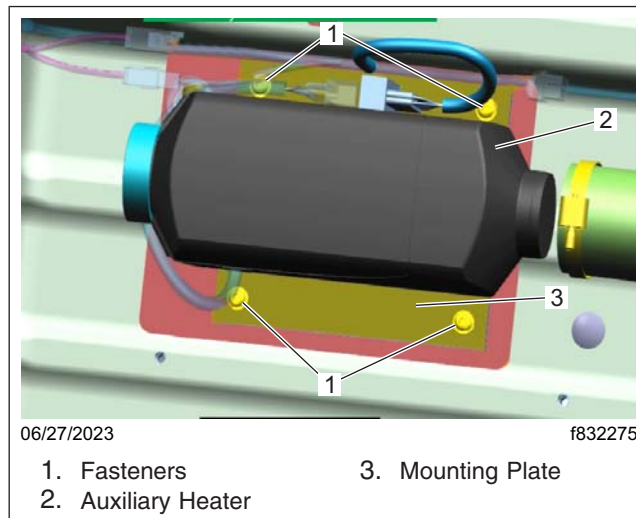

Fig. 29, Auxiliary Heater Mounting Plate Location
14. Position the Espar heater on the sleeper floor, and align the four mounting holes with the threaded inserts on the sleeper floor. Install the four fasteners that attach the auxiliary heater mounting plate to the sleeper floor. See Fig. 29.